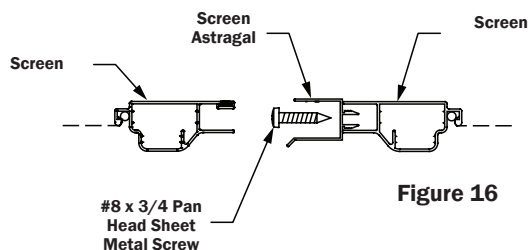

Figure 16
23. Holding the astragal in place on the edge of the screen, drill an 1/8" hole into the interior screen wall. After drilling the first hole, screw the astragal to the screen using a #8 x 3/4" pan head screw to hold it in place while drilling the rest of the holes (Figure 16).